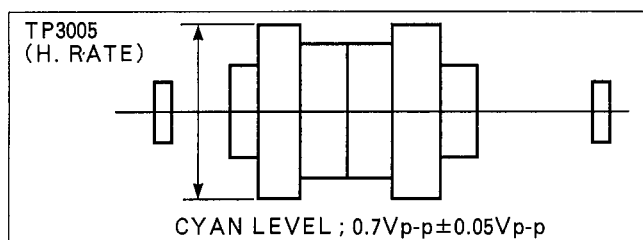

Figure E11
2. Adjust VR3201 so that the cyan level becomes 0.7Vp-p  $\pm$  0.05Vp-p as shown in Figure E11.